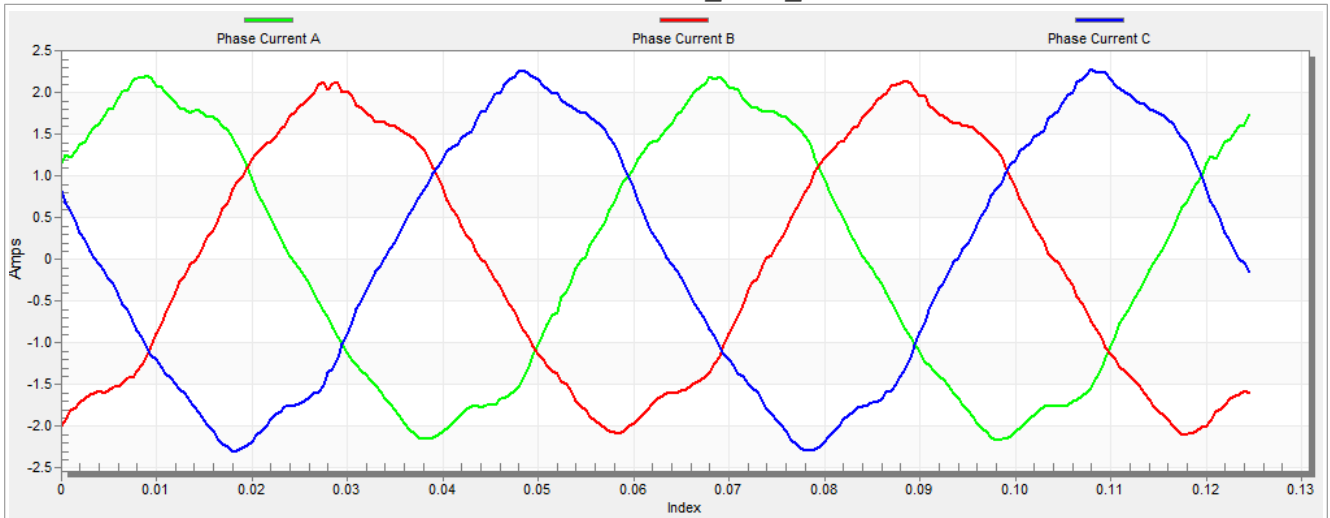

Figure 30. Phase currents
5. The optimal ratio for the V/Hz profile can be found by changing the V/Hz factor directly using the "M1 V/Hz factor" variable. The shape of the motor currents should be close to a sinusoidal shape (Figure 30). Use the following equation for calculating V/Hz factor: